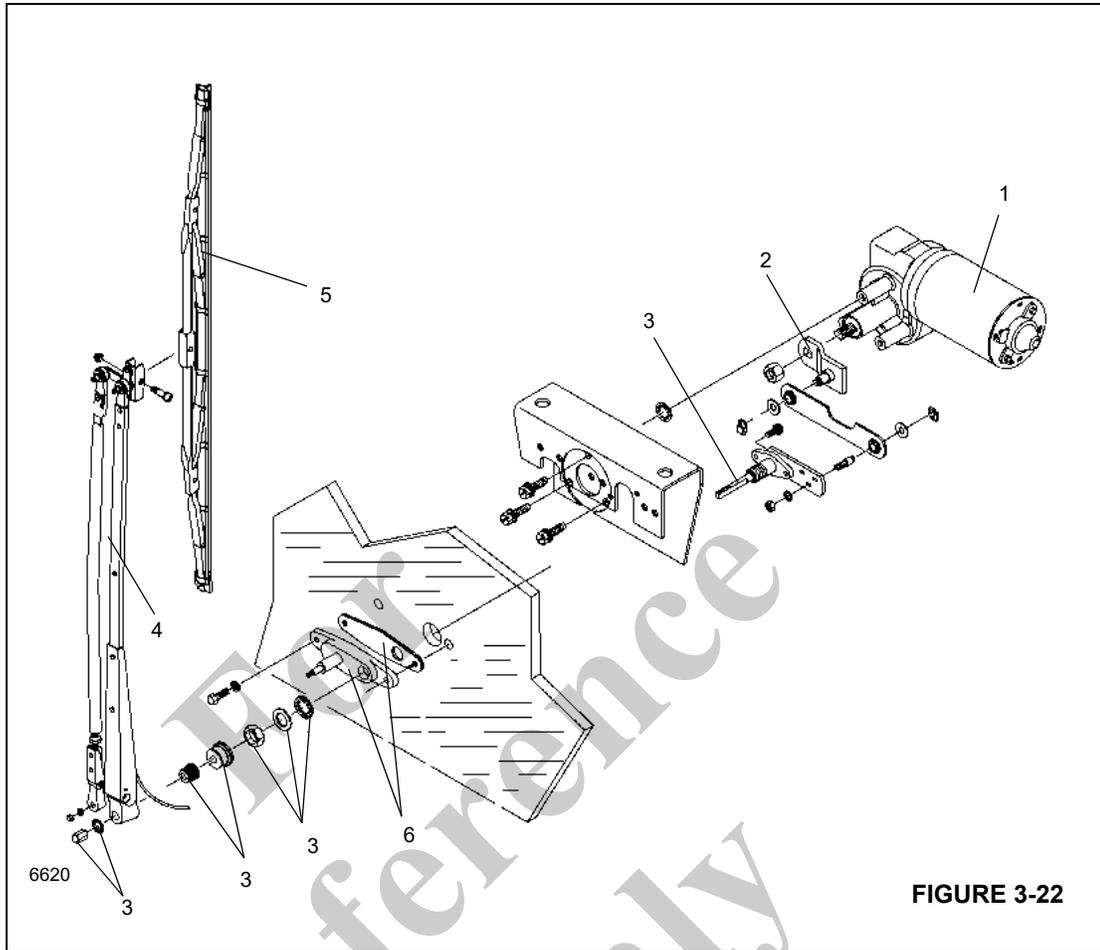

FIGURE 3-22
3. Remove hardware for the front console cover and remove the cover. Tag and disconnect the electrical leads from the motor (1), (Figure 3-22).
4. Disconnect the washer hose on the wiper arm (4), (Figure 3-22) (also called the pantograph arm assembly) from the washer nozzle fitting assembly.
5. Remove the cap nut, washer, and tapered sleeve securing the wiper arm (4), (Figure 3-22) to the pivot shaft (3), (Figure 3-22) assembly.
6. Remove the acorn nuts from the pivot shaft (3) and adapter (6), (Figure 3-22).
7. Remove the wiper arm (4), (Figure 3-22) from the pantograph arm assembly
8. Remove the flanged sleeve, nut, and two flat washers from the pivot shaft (3), (Figure 3-22).
9. Remove the two capscrews and lock washers securing the pantograph arm assembly's adapter to the cab exterior. Remove the pantograph arm assembly's adapter (6), (Figure 3-22) and gasket.
10. Remove attaching hardware to free the windshield wiper motor (1), (Figure 3-22) bracket from the cab interior. Remove the bracket, with motor and pivot shaft connected, from the cab.
11. Remove the nut to free the wiper motor's shaft from the wiper motor crank. Remove the three screws and washers to free the wiper motor from its bracket. Remove the wiper motor (1), (Figure 3-22) from its bracket. Leave the other parts attached to the bracket for now.